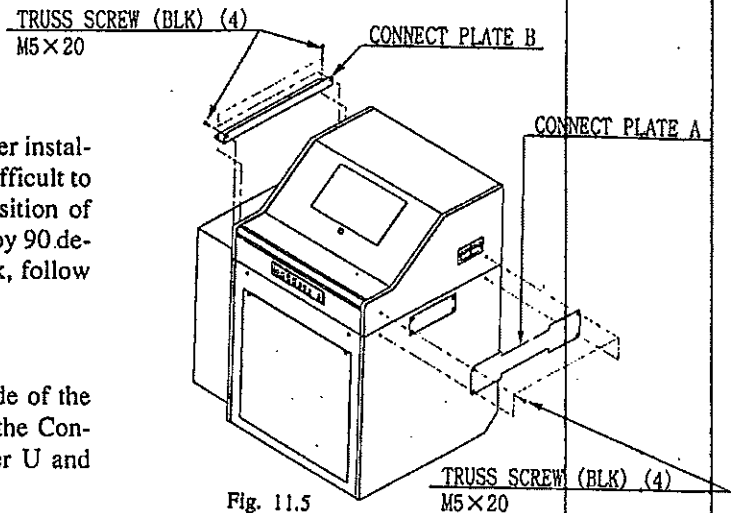

Fig. 11.5
- ① Open the Service Door on the rear side of the Control Tower and disconnect all of the Connectors which connect Control Tower U and Control Tower L.
- ② Remove the 8 screws which secure Connect Plate A and Connect Plate B to remove Control Tower U (Fig. 11.5).